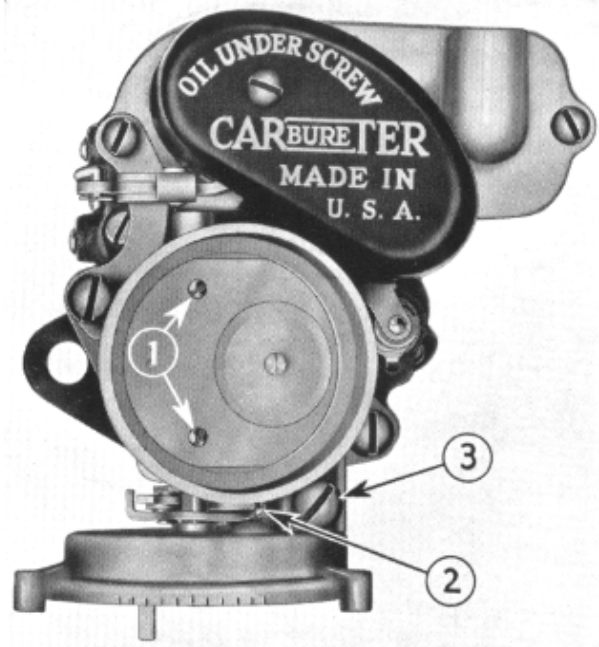

Figure 8
1. Remove dust cover, lock washer and attaching screw (Fig. 8).
3. Remove choker valve screws (1) and choker valve assembly. Fig. 8.
4. Loosen clamp screw (2) Fig. 8 on choker lever and screw assembly and bend lip under screw with screw driver so it will pass over the portion of choke shaft which is not milled flat. Choker lever assembly can easily be removed if this lip is properly compressed.
7. Don't remove screw (3) Fig. 8 that holds air horn and piston housing together. These parts are lined reamed at the factory. If they are removed line them up with shaft and valve so valve, shaft and piston works freely.